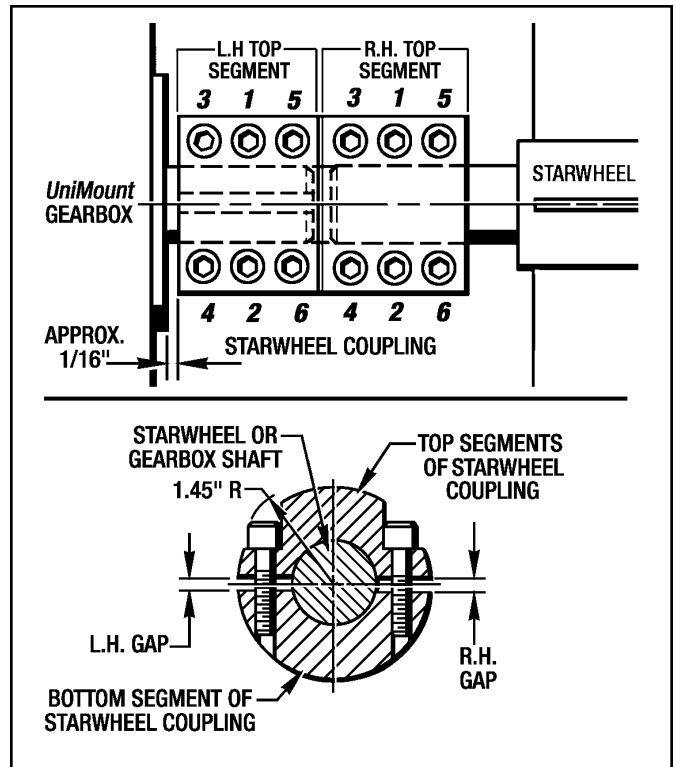

Figure 3.2 - Installing Drive Coupling
7. Install the Starwheel Couplings (The bottom half and the L. H. Top Segment.) onto the Gearbox Output Shafts (#1) so the Couplings are approx. 1/16" from the Gearbox face as shown in Figure 3.2. Torque the (6) Screws to **27 Lb. Ft. (38 Nm)** in an even manner and in the pattern shown in Figure 3.2. **Use Blue Loctite #242.** Make sure the L.H. Gap and the R. H. Gap between the top segment and the bottom segment is the same on both sides as shown in Figure 3.2.
3. Attach the R.H. Top Segment of the Starwheel Coupling with the (6) Screws and Lockwashers. Use **Blue Loctite #242** on the screws. **Torque to 27 Lb. Ft. (38 Nm)** in an even manner and pattern shown in *Figure 3.2*. Again, make sure the L.H. Gap and the R. H. Gap between the top segment and the bottom segment is the same on both sides as shown in *Figure 3.2*.